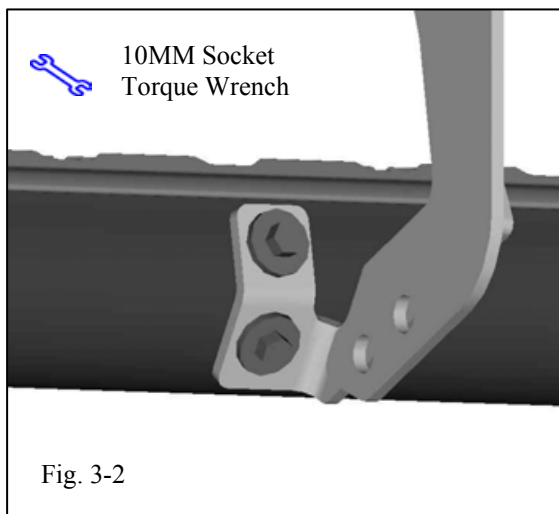

Fig. 3-2
- (b) Thread in two M8 semi bolts per bracket location, through bracket, and into threaded holes in tube. Install finger tight (8 Places) (Fig. 3-2).